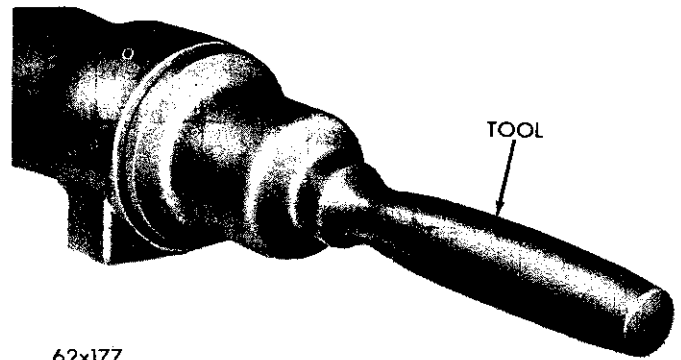

Fig. 36—Installing Output Shaft Oil Seal
(4) To install a new seal, position seal in the opening of the extension housing with lip of seal facing inward. Drive the seal into the housing with Tool C-3837 (Fig. 36).
(4) Place a new seal in the opening of the extension housing (lip of seal facing inward). Using Tool C-3837, drive the seal into housing until the tool bottoms (Fig 36).